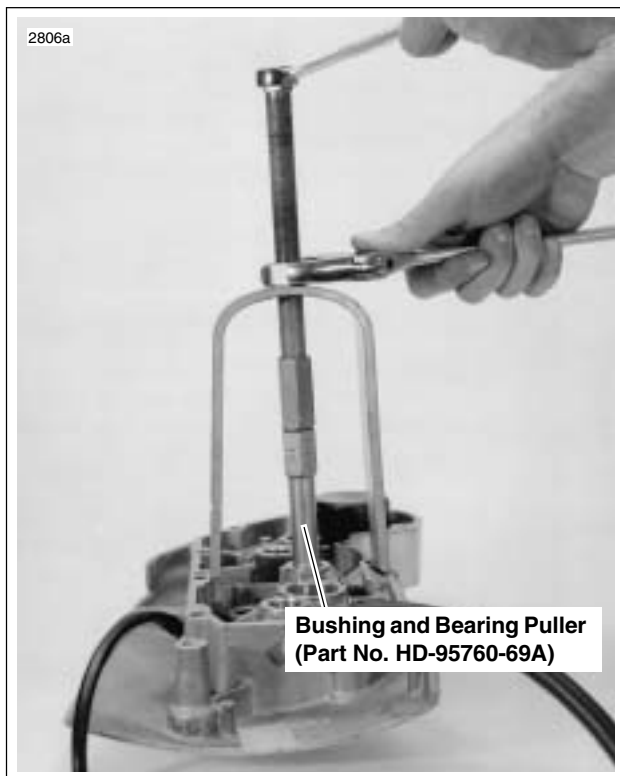

Figure 3-65. Removing Bushing
2. See Figure 3-65. Use a BUSHING AND BEARING PULLER (Part No. HD-95760-69A) to remove bushings from gearcase cover and crankcase.